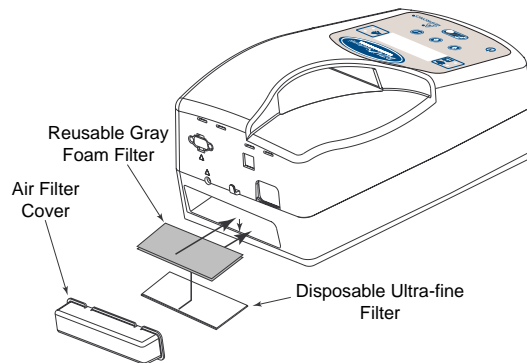

Figure 4-1 *Filters Installed*
- STEP 2** Push the filters down into the air inlet recess at the rear of the Synchrony as shown in Figure 4-1.